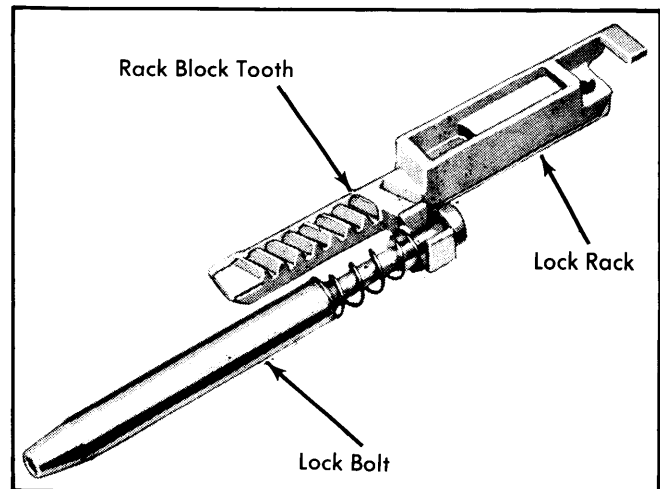
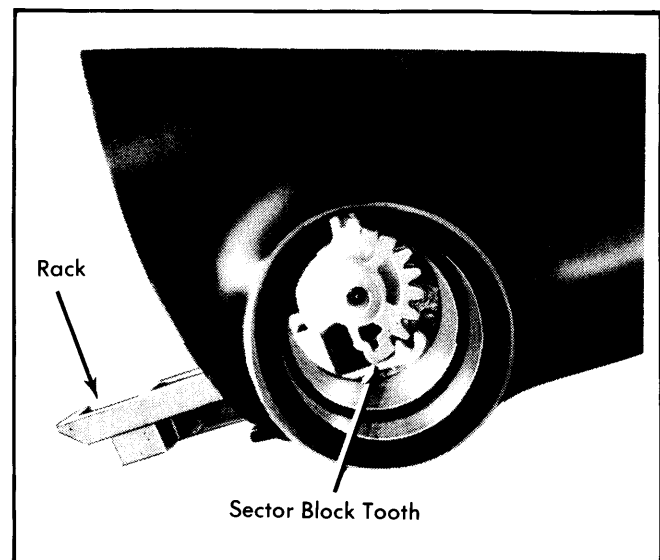
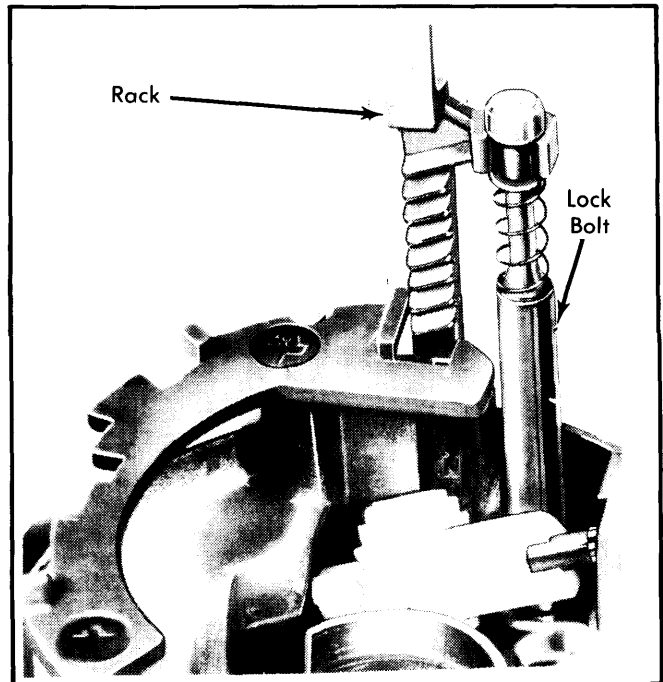

Fig. 4 Assembly Lock Bolt and Lock Rack
Fig. 5 Installing Lock Bolt and Lock Rack
Fig. 9 Installing Lock Rack and Bolt into Shift Bowl
2) Install rack preload spring. Make sure bowed side of preload spring is against lock rack. Assemble lock rack and lock spring as shown in Fig. 4.
3) Install assembled lock bolt and lock rack in housing. Make sure block tooth of lock rack is mated with block tooth of sector. See Fig. 5.
6) Assemble lock bolt and lock rack. See Fig. 4. Install lock bolt and lock rack in shift bowl. See Fig. 9. Make sure block tooth of lock rack engages block tooth of sector. See Fig. 5.